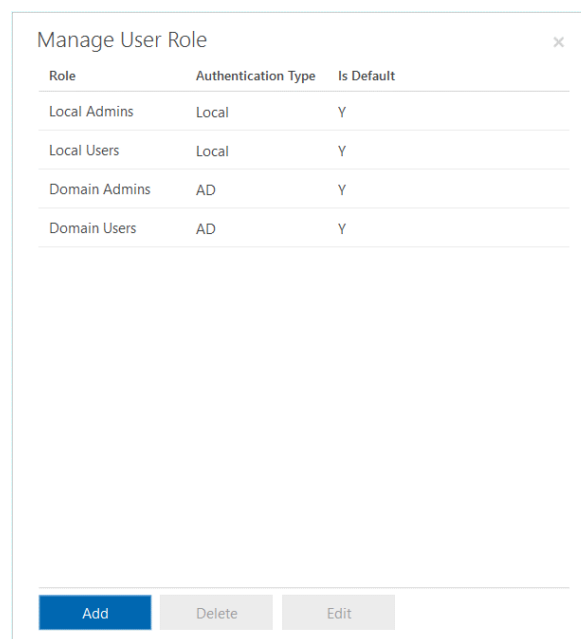

Figure 31: Manage User Role Window
2. The **Manage User Role** window will pop-up (Figure 31). To create a new role, press **Add**.